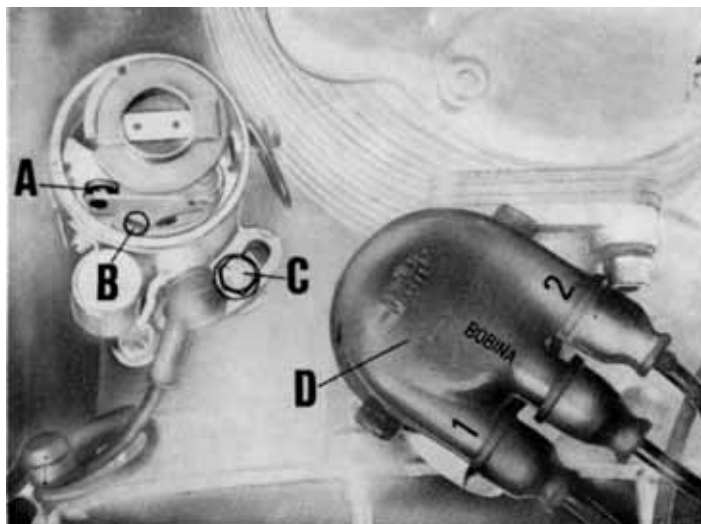

Fig. 19
### Distributor (See fig. 19)
Remove generator belt cover. Check that the distributor contact points are 0.42-0.48 mm. (.016"-.018") apart. Ensure the left cylinder (2) is on its compression stroke i.e. with both valves closed. Rotate the generator pulley on the crankshaft till the slot (fig. 19/1) is opposite mark A traced on the timing cover.
If the points start to open before or after the mentioned point, slacken distributor securing bolt C (fig. 19) and turn the distributor to the right or left to the position where the points start opening at the proper time.